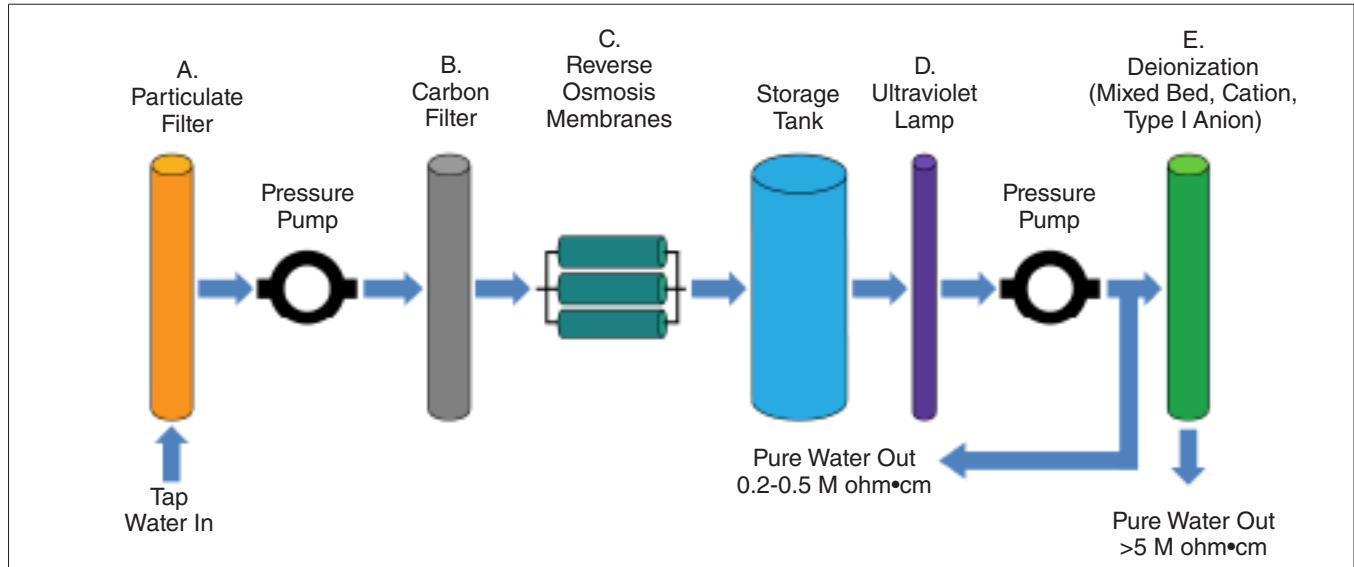

Figure 6.4j: Reverse Osmosis / Deionized water system.
- The reverse osmosis / deionized (RO/DI) water system shown in Figure 6.4j produces water pure enough for spray systems.
- Figure 6.4j below shows an effective Reverse Osmosis / Deionized Water System with Anion Type I Resin for spray water silica removal.